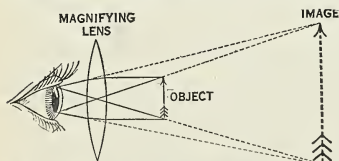

Fig. 256. Why a lens magnifies. How does this convex lens change the rays? Why do we see the object larger than it is?
**Seeing tiny things.** If you want a good look at a tiny bug, you use a *magnifier*. This is a simple convex or converging lens. Figure 256 will show you the principle upon which this depends. Reading glasses are examples of such simple magnifiers.